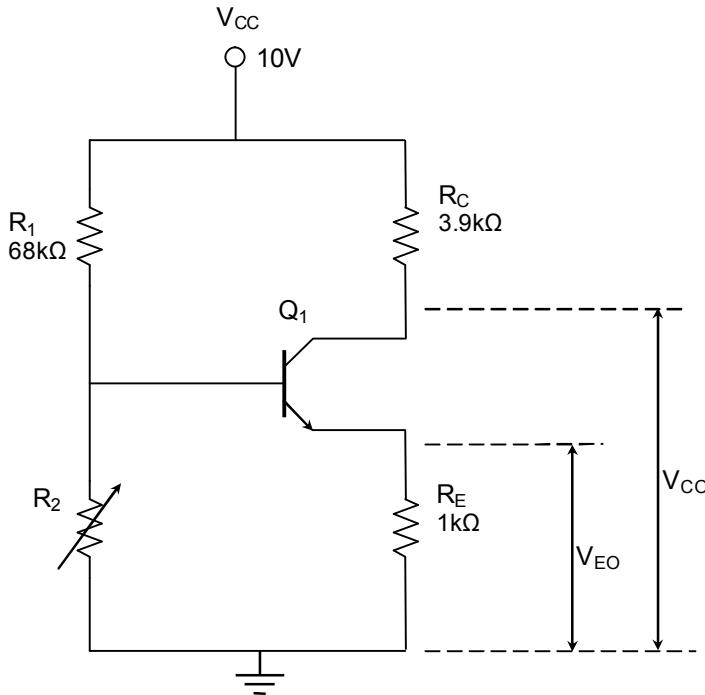

Figure 6.2: Common-emitter circuit
- (i) For the first part, you should perform DC sweep on the circuit shown in Figure 6.2 to find R_2 for the Q-point ($V_{CE}=5V$, $I_C=1mA$). Also, you should measure V_{CEQ} , I_{CQ} ($\approx I_{EQ}$) for $R_2 = 1k\Omega$, $5k\Omega$, $15k\Omega$, and $25k\Omega$ on the same circuit.
2. Set up the circuit using the secondary transistor, as shown in Figure 6.2 without connecting the capacitors or the source voltage V_s . Use a decade box for R_2 and adjust it until V_{CE} is about 5V. R_2 will probably be close to 16 kΩ. Measure and record V_{E0} , or the emitter-to-ground voltage using the DMM. From this voltage measurement and the value of R_E , find $I_E \approx I_C$. Also measure and record V_{CE} .
- Keep the primary transistor in the circuit shown in Figure 6.2. Vary R_2 through the following values and measure and record the resulting Q-point (V_{CE} and I_C): $1\text{k}\Omega$, $2\text{k}\Omega$, $5\text{k}\Omega$, $8\text{k}\Omega$, $10\text{k}\Omega$, $15\text{k}\Omega$, $18\text{k}\Omega$, $20\text{k}\Omega$, $25\text{k}\Omega$, $30\text{k}\Omega$.